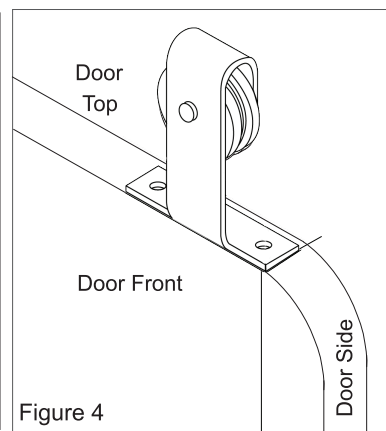

Figure 4
- If the door has a curved corner set the hanger flat on the top (Figure 4).
8. Attach one end of the track to the wall with one lag screw, and one washer (provided) using a socket wrench with 9/16" socket. Do not tighten (Figure 4)